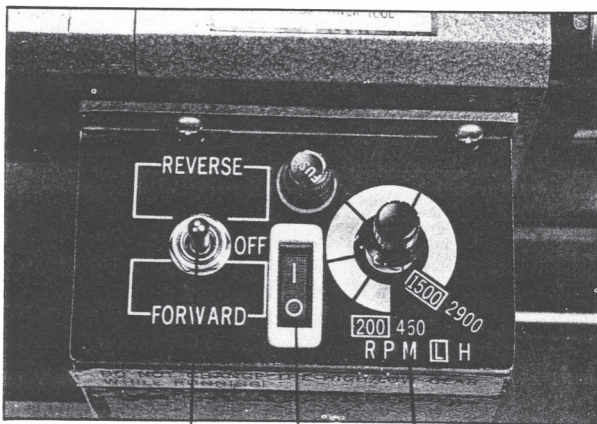

Fig. 4
5. Make sure the Switch (#1 in figure 4 below) is at the OFF position.